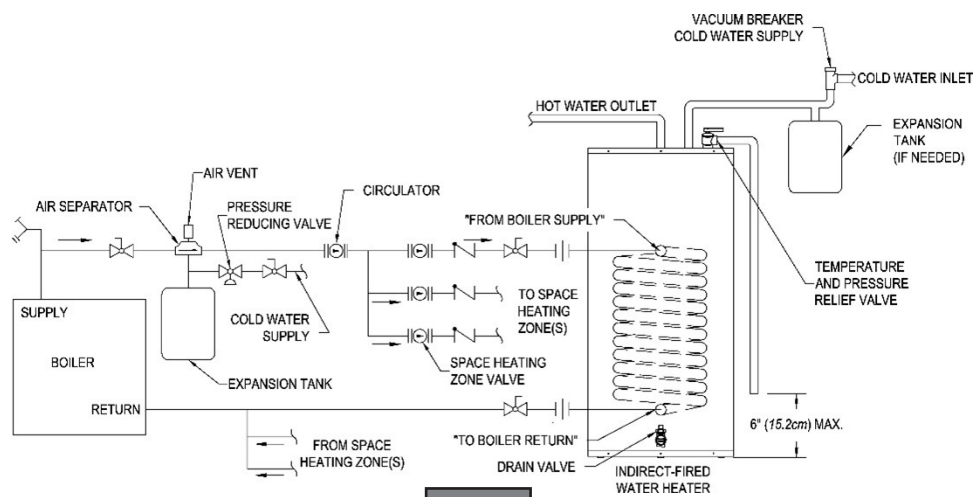

Fig. 4
2. For a space heating system that utilizes CIRCULATORS, refer to Figure 4. The indirect-fired water heater connection labeled “FROM BOILER SUPPLY” should be piped to the boiler supply piping. Mount the circulator making sure the flow arrow points toward the water heater. The use of shut-off valves and unions are recommended for future service convenience. The use of an air separator and vent is recommended to eliminate air in the system. Pipe and fittings between the boiler and indirect-fired water heater must be $\frac{3}{4}$ " diameter or larger.